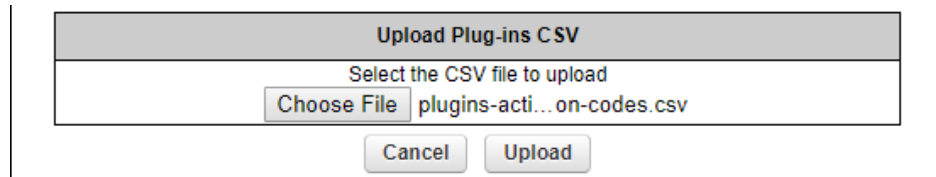

Figure 75. MANAGE PLUG-INS DIALOG (Upload Plug-ins CSV section)
7. Upload the *.CSV file to the unit by clicking the **Choose File** button in the **Upload Plug-ins CSV** section (Figure 75 (page 168)) and following the software prompts.